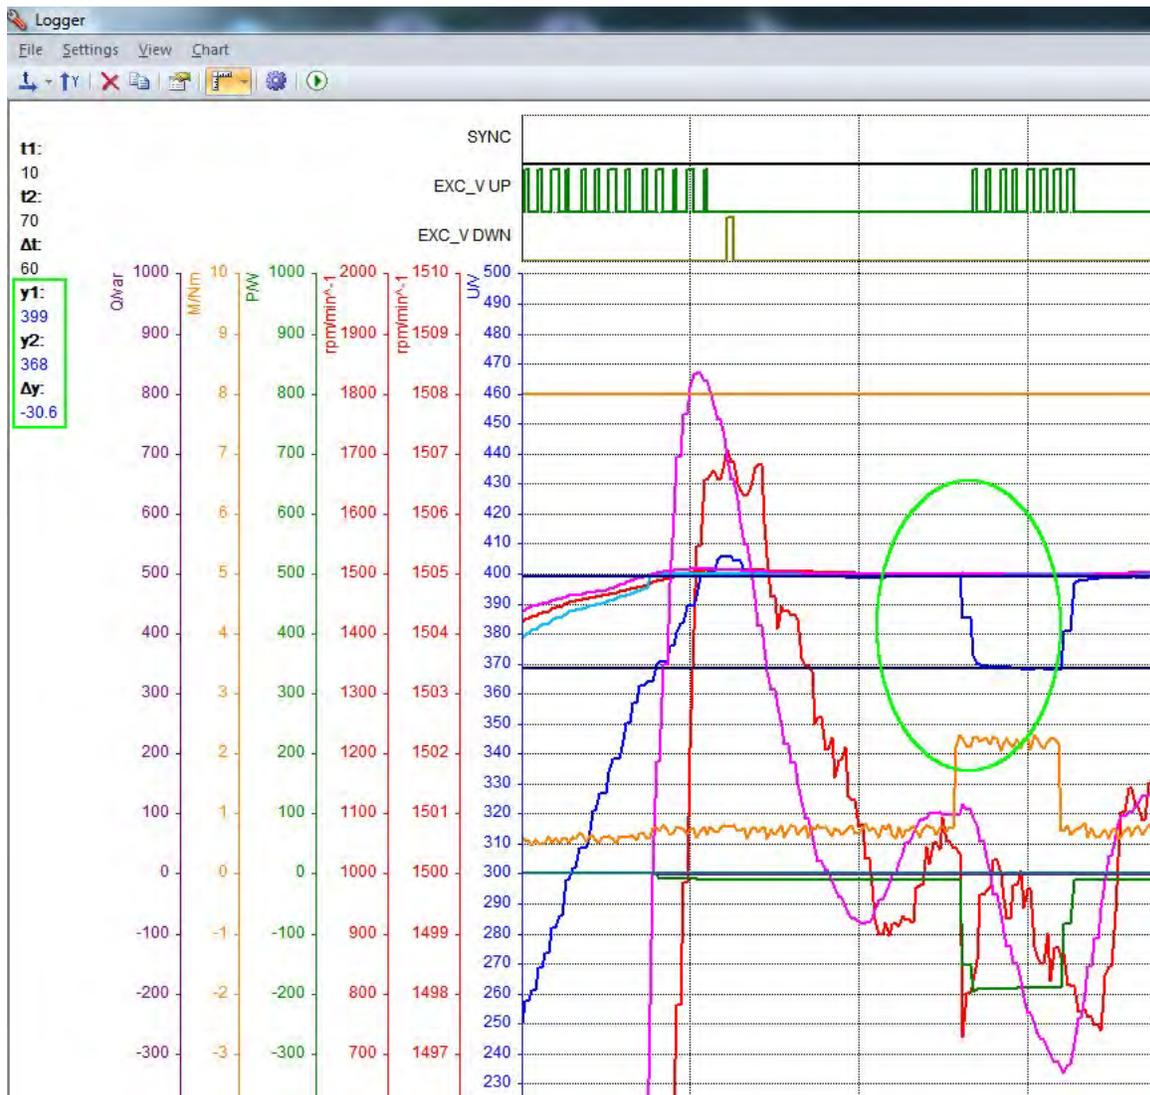

Figure 43:
- ❖ Using the down arrow next to the try square you can select the referential Y-axis for scaling - this involves the reference values $y1$, $y2$, Δy (Figure 43), number columns on the left).